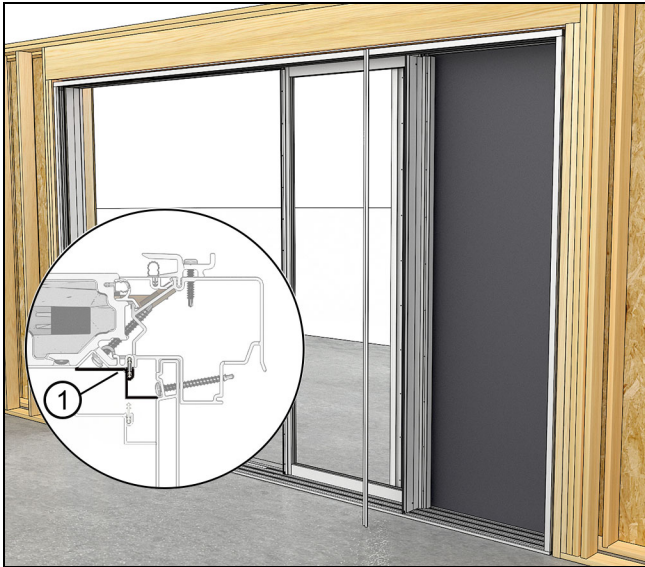

Figure 102
5. Attach the pocket cover trim piece. The trim is barbed into the pocket panel and covers the screws fastening the components to one another. See Figure 102.